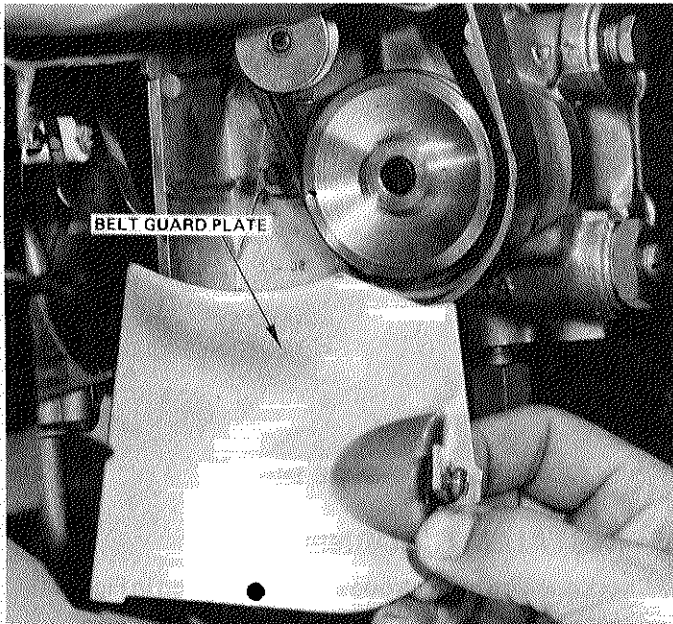

FIGURE 7
- 2 - For belt inspection and adjustment, remove mounting screw securing belt guard plate. See Figure 7.